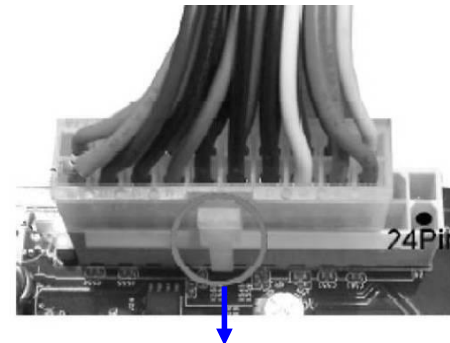

Figure1 : 20-pin power plug
- If using a 20-pin power plug, please refer to **Figure1** for power supply connection. Power plug form power supply and power connectors from motherboard both adopt key design to avoid mistake installation. You can insert the power plug into the connector with ease only in the right direction. If the direction is wrong, it is hard to fit in and if you make the connection by force if is possible